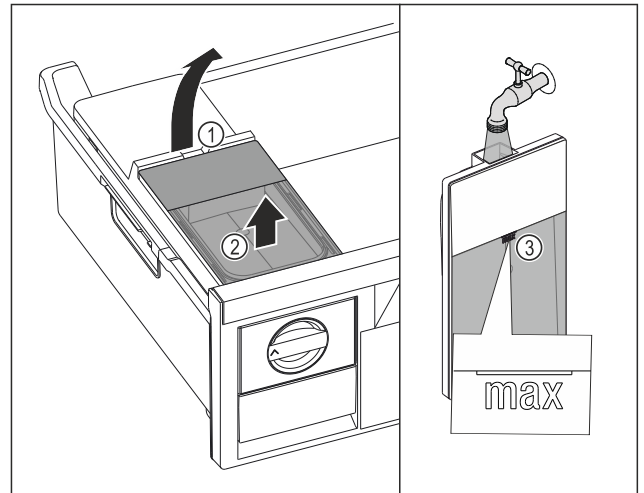

Fig. 120
- ▶ Lift the water tank at the recess Fig. 120 (1).
- ▶ Remove the water tank by lifting it upward. Fig. 120 (2)
- ▶ Fill the water tank with drinking water up to the mark Fig. 120 (3).